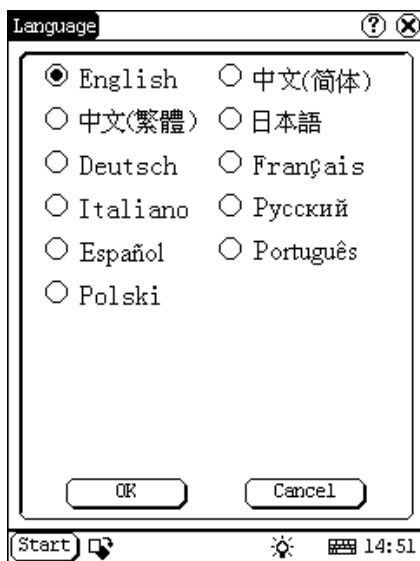

Figure 5-41
- 1) In the Control Panel interface, click 'Language' icon to open the Language interface. See Figure 5-41.